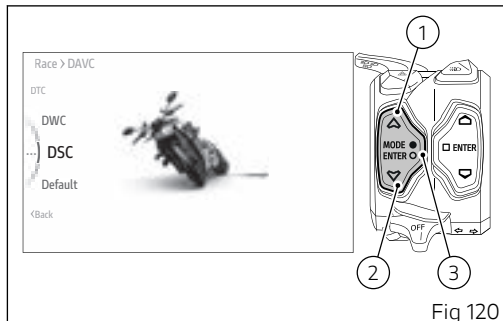

Fig 120
- Select the "Riding Mode" item and press ENTER (3).
- Select the Riding Mode you wish to customise and press ENTER (3).
- Select the "DAVC" item and press ENTER (3).
- Select the "DSC" (Fig 120) item and press ENTER (3).